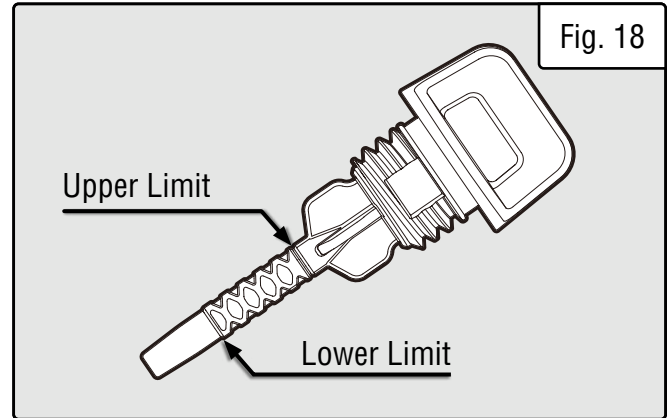

Fig. 18
3. Insert the dipstick into the oil fill opening without screwing in. Remove the dipstick to check the oil mark (Fig. 18). Add oil if the oil mark covers less than one half of the dipstick.